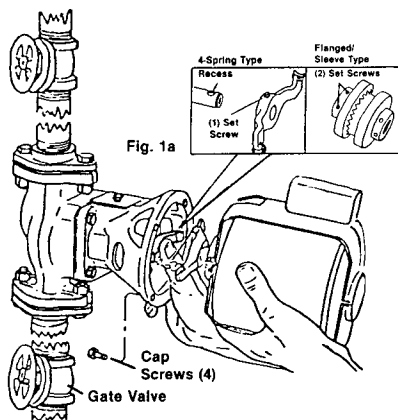

FIG 1. Removing motor assembly
- 2B Remove motor assembly (and attached coupler) by removing 4 cap screws. See **FIG. 1**.